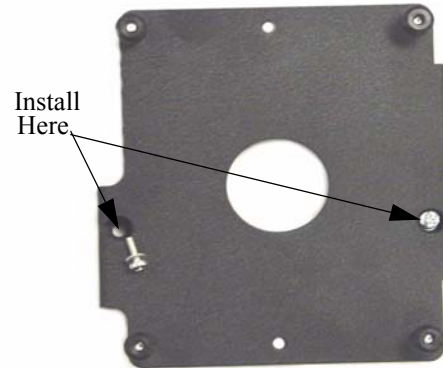

Figure 1. Install First Two Screws
3. Install two M4 X 12mm screws and flat washers, one in front and one at the rear, loosely into the threaded inserts of the projector (see Figure 1).